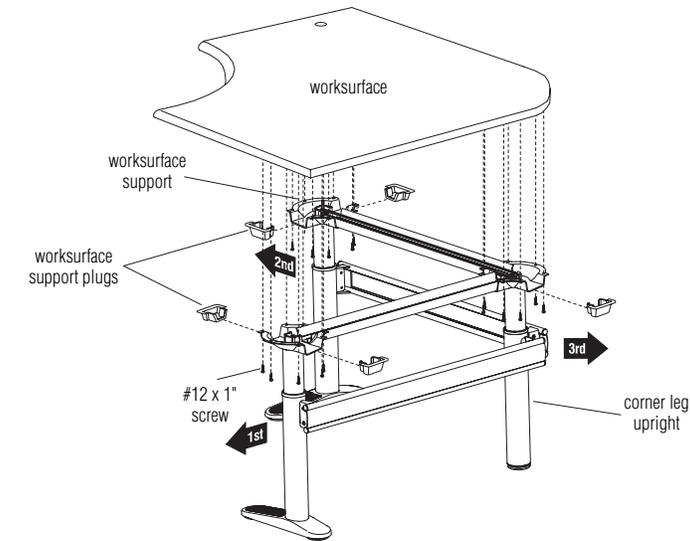

Figure 4
6. With the crossbrace screws loose at the corner leg upright and the base assembly in the upright position, carefully set the worksurface onto the assembly. Align the holes of the worksurface supports with the pre-drilled holes in the worksurface. Loosely thread in seven #12 x 1" screws through each worksurface support, and into the underside of the worksurface. At the right-hand outer leg upright (arrow labeled 1st), pull the leg in the direction of the arrow and tighten the seven screws at that worksurface support. Next pull the left-hand outer leg upright in the direction of the 2nd arrow and secure to the worksurface with seven #12 x 1" screws. To take up slack in the chain, pull the corner leg upright outward in the direction of the 3rd arrow and tighten the seven final #12 x 1" screws. Tap in the five worksurface support plugs and tighten the corner cross brace screws (Figure 4).